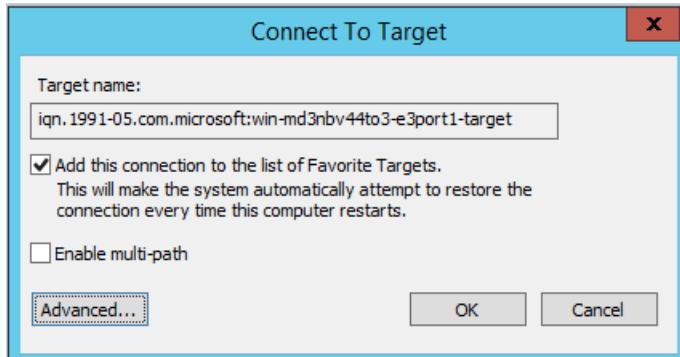

Figure 9-25. Connect To Target Dialog Box
9. On the Connect To Target dialog box (Figure 9-25), click **Advanced**.